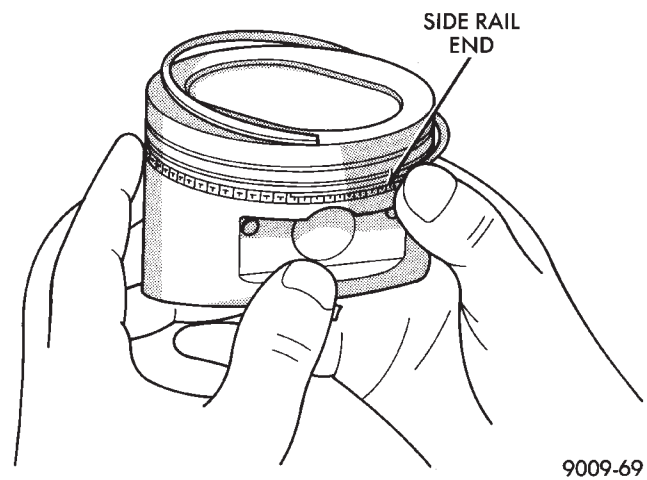
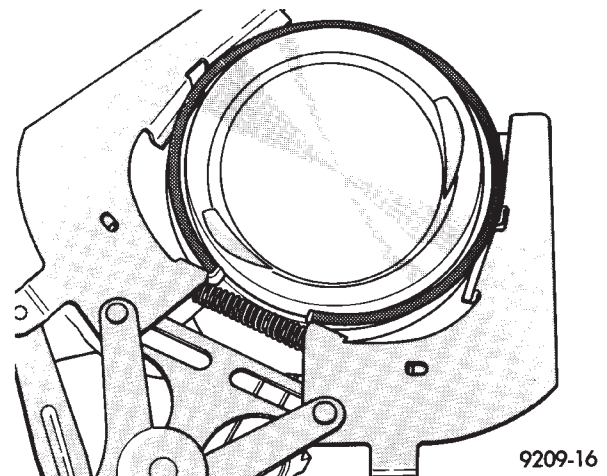

Fig. 11 Installing Side Rail
Fig. 12 Installing Upper and Intermediate Rings
(2) Install the side rail by placing one end between the piston ring groove and the expander. Hold end firmly and press down the portion to be installed until side rail is in position. **Do not use a piston ring expander.** (Fig. 11).
(3) Install upper side rail first and then the lower side rail.
(4) Install No. 2 piston ring and then No. 1 piston ring (Fig. 12).